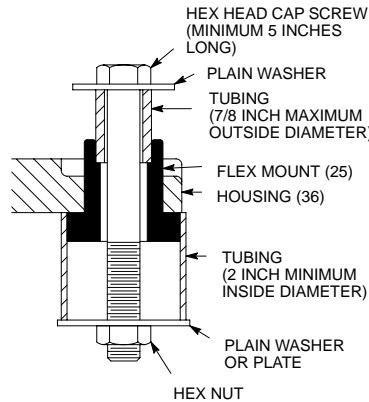

FIGURE 4 – FLEX MOUNT REMOVAL
4.1 The flex mounts can be removed with a long bolt and two pieces of tubing as shown in Figure 4.